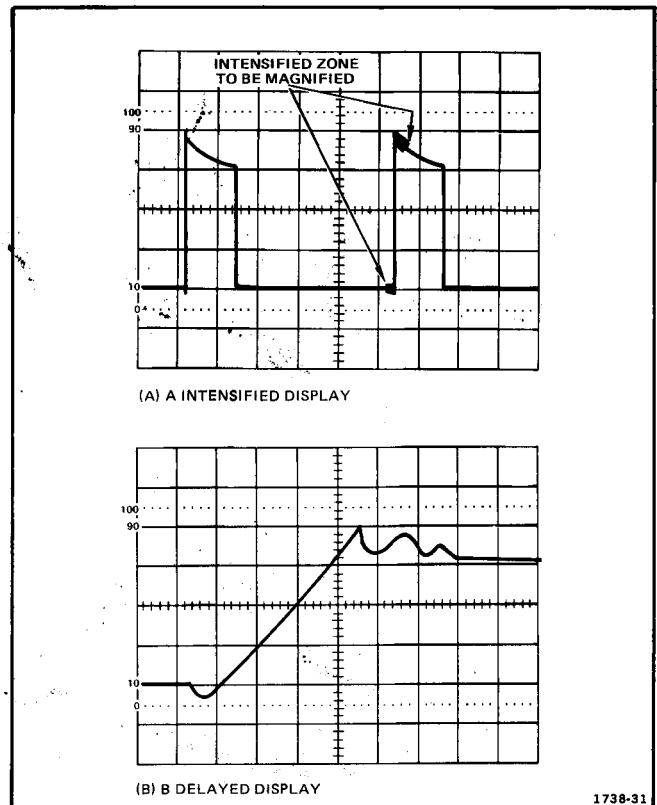

Fig. 2-14. Delayed Sweep magnification.
3. Set the B TIME/DIV switch so just the portion of the A sweep display to be magnified is intensified (see Fig. 2-14, A).
4. Set the HORIZ DISPLAY switch to B DLY'D. The portion of the A sweep display that was intensified in step 3 is not displayed in magnified form (see Fig. 2-14, B). The displayed sweep rate is determined by the B TIME/DIV switch. To calculate the apparent magnification factor, use the formula: